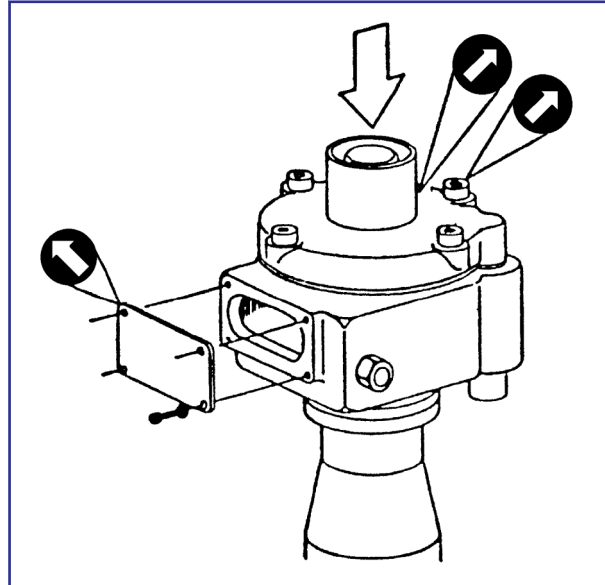

Figure 1: .
- 3) Remove both covers on the housing of the overspeed tripping device, *see fig. 1*.
- 5) The overspeed device can be tested manually by depressing the button on top of the housing, *see fig. 1*. This will activate the flyweight and the arm for release of the air valve for the stop cylinders and the engine should thus stop. (This test must also be carried out without load).